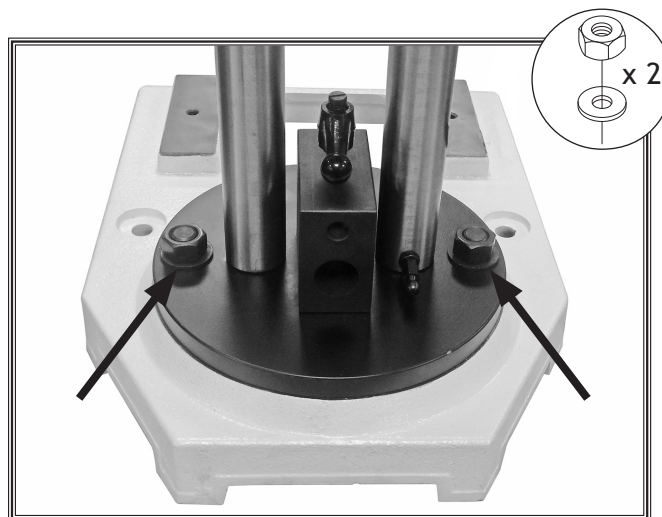

Figure 5. Head and column assembly secured to base.
4. Secure assembly to base with (2) 14mm flat washers and (2) M14-2 hex nuts (see **Figure 5**).